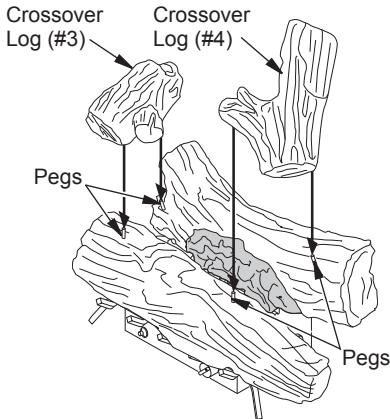

Figure 20 - Installing Crossover Logs
3. Locate the holes in the bottom of the left crossover log (#3). Place crossover log on pegs on left of the back log and front log (see Figure 20, page 17).
4. Locate the holes in the bottom of the right crossover log (#4). Place crossover log on pegs on right of the back log and front log (see Figure 20, page 17).